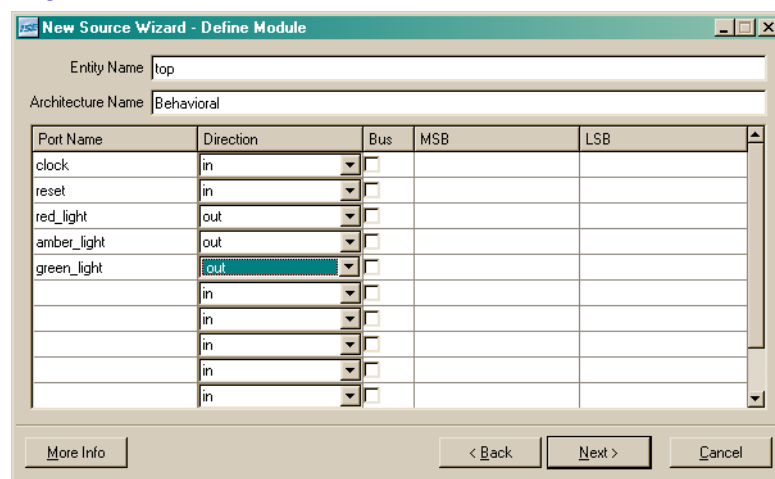

Figure 4-31: Define VHDL Source Window
3. Click on the **Next >** button and fill out the **Define VHDL Source** dialog box, as shown in Figure 4-31.